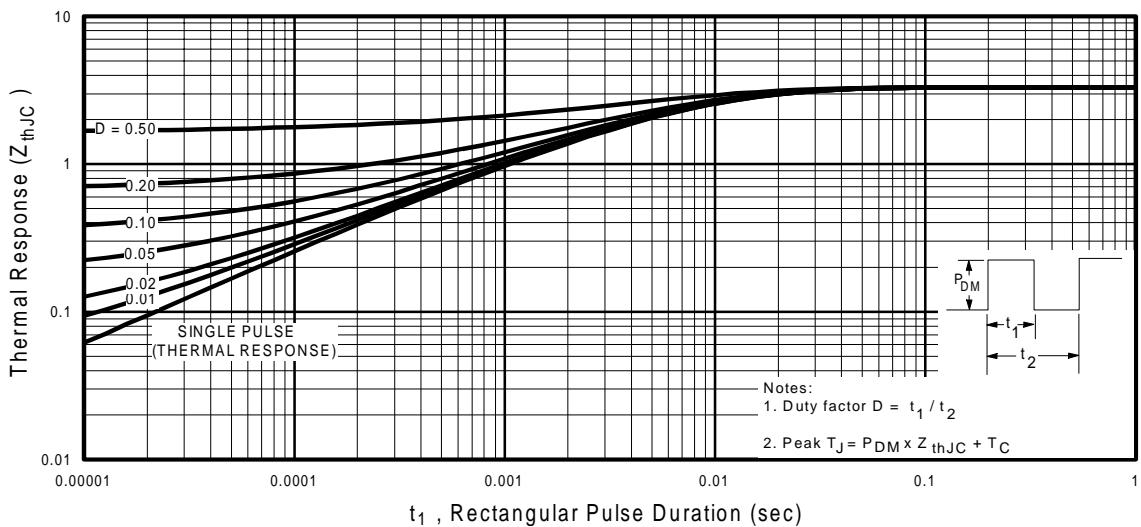

Fig 11. Maximum Effective Transient Thermal Impedance, Junction-to-Case
- ① Repetitive rating; pulse width limited by max. junction temperature. (See fig. 11)
- ② $V_{\text{DD}} = 25\text{V}$, starting $T_J = 25^\circ\text{C}$, $L = 1.0\text{mH}$